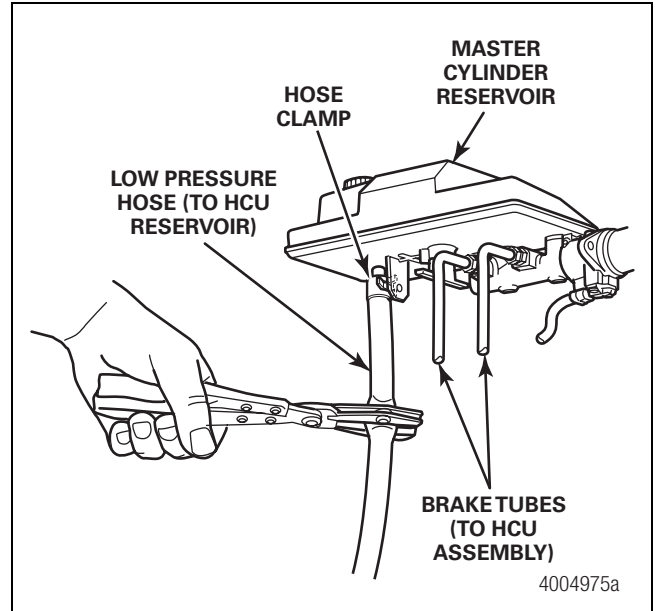

Figure 4.36
7. Attach a pinch clamp to the low pressure hose near the outlet of the master cylinder reservoir. Do not damage the reservoir outlet. Figure 4.36.